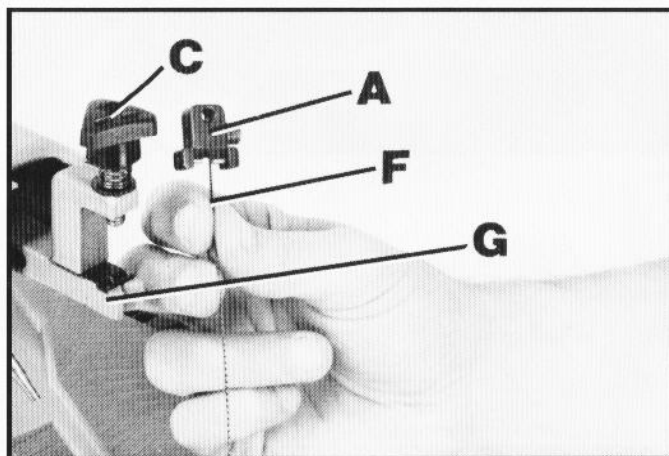

Fig. 24
6. Loosen blade holder locking knob (C) Fig. 24, and remove blade holder (A) and flat-end blade (F) from upper rocker arm (G).